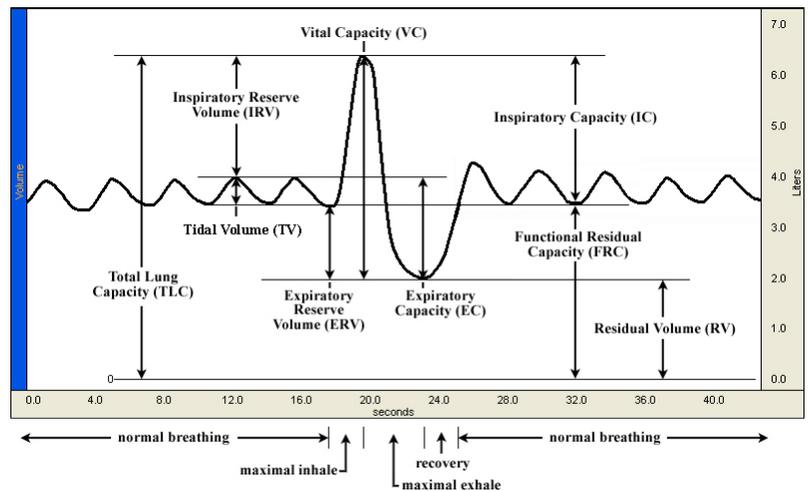

Fig. 12.14 Measurement areas for respiratory volumes and capacities
7. Use the I-beam cursor and measurement tools to observe the following volumes and capacities (defined in Fig. 12.14):